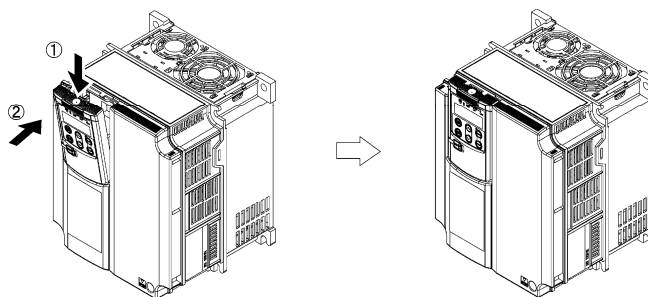

Figure 2.8 Mounting the remote keypad on the inverter
■ Mounting the remote keypad on the inverter (Figure 2.8)